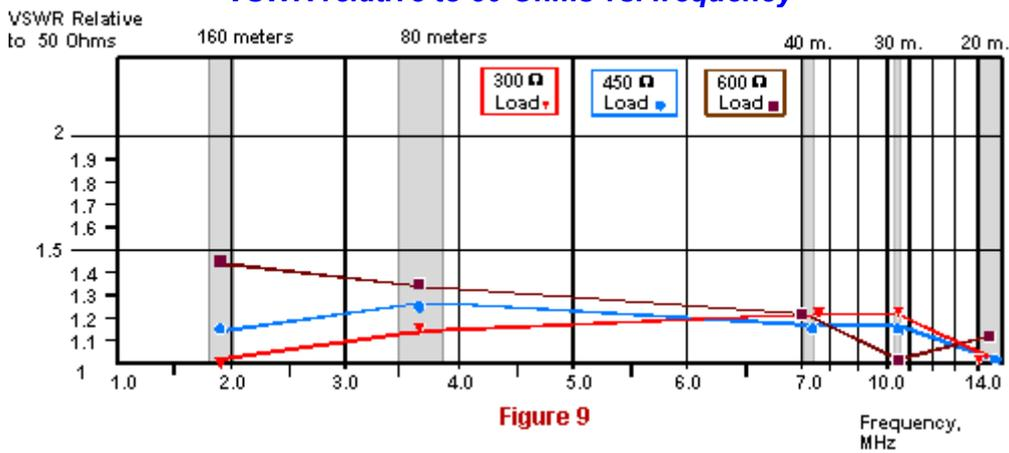

Figure 9
- A VSWR relative to 50 Ohms vs. frequency (**Fig. 9**),